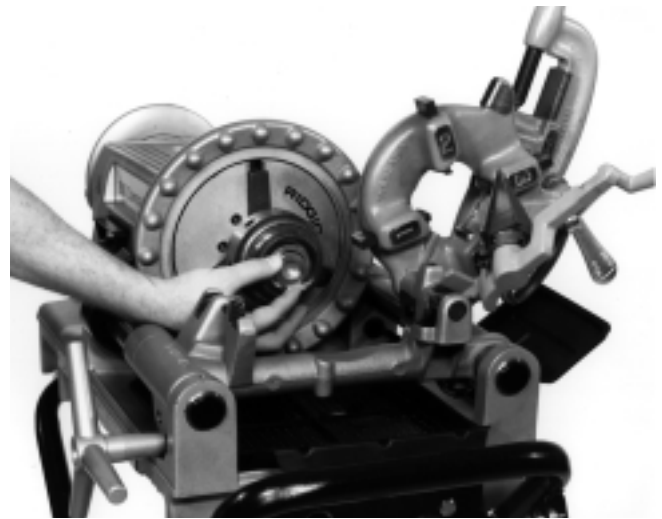

Figure 16 – Place Insert into Nipple Chuck
3. Position insert (Figure 16) with small end toward chuck body for 1/8" to 3/4" pipe; large end toward